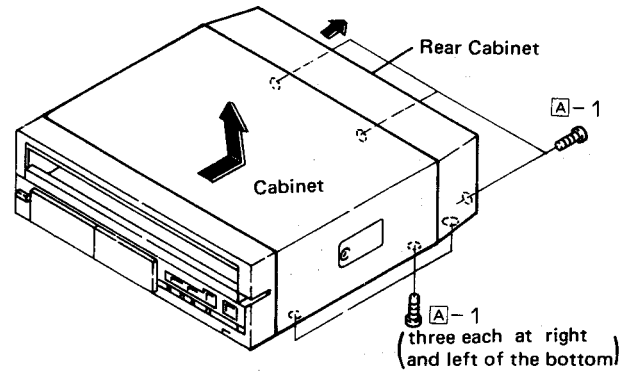

Figure 4-1
1. Remove five screws from the rear cabinet as shown in Fig. 4-1 and take the cabinet off by shifting it backwards. Then remove four screws from the cabinet (two each at right and left of the bottom) and take the cabinet off by shifting it backwards and then pulling it up.